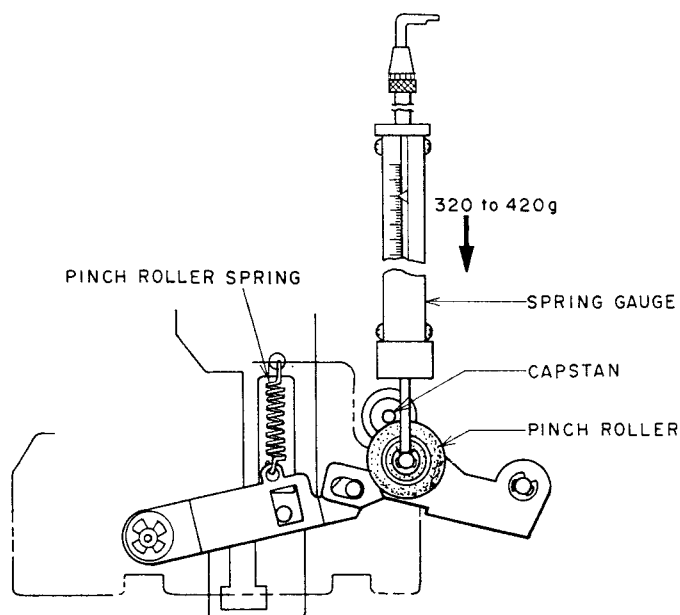

Fig. 8
3. PINCH ROLLER PRESSURE MEASUREMENT (Refer to Fig. 8)